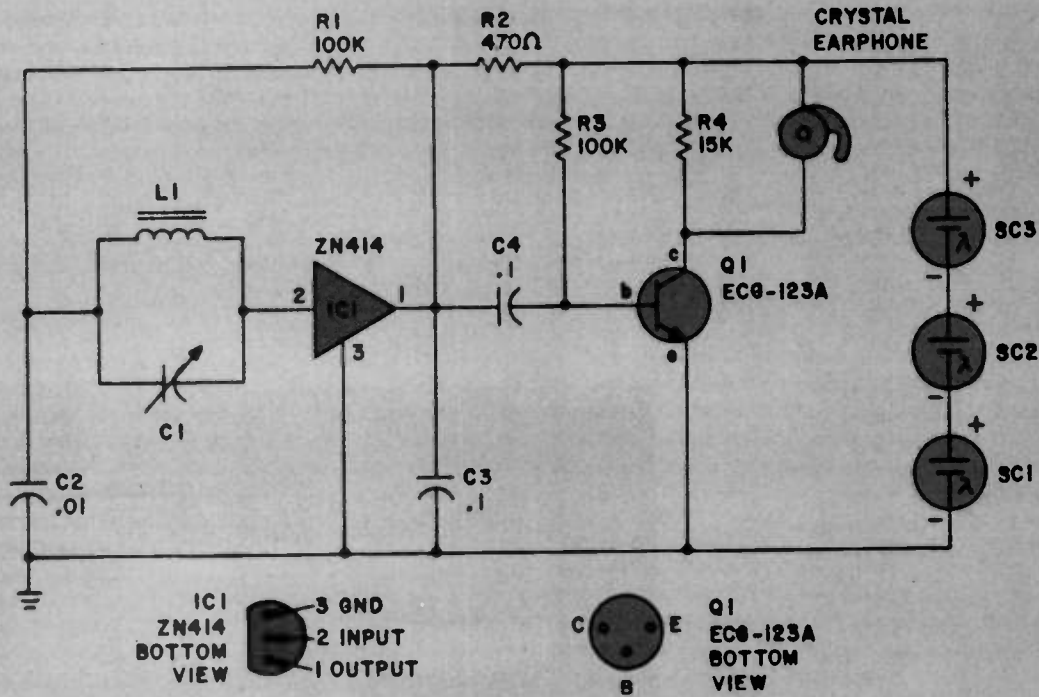

Fig. 2. The actual solar radio circuit with IC1 and Q1. The volume is sufficient to drive a crystal earphone.
(L1) and capacity tuning section (C2). See Fig. 2. The ferrite rod antenna coil should be as long as possible. No additional antenna is needed for this solar radio. On strong local stations the antenna or container may be turned to lower the signal if needed. Sometimes a strong radio station may take up a large share of the tunable band.
The desired station is selected by L1 and C1. This RF signal is fed into the input terminal (2) of IC1 (Fig. 2). Here the tuned RF signal is amplified and detected with excellent audio signal at output terminal (1). The stator (stationary) plates of C1 should be connected to the input terminal of the IC1. Capacitor C4 couples the audio signal to audio driver transistor. Here the audio signal is amplified with a single earphone piece tied to the collector terminal.